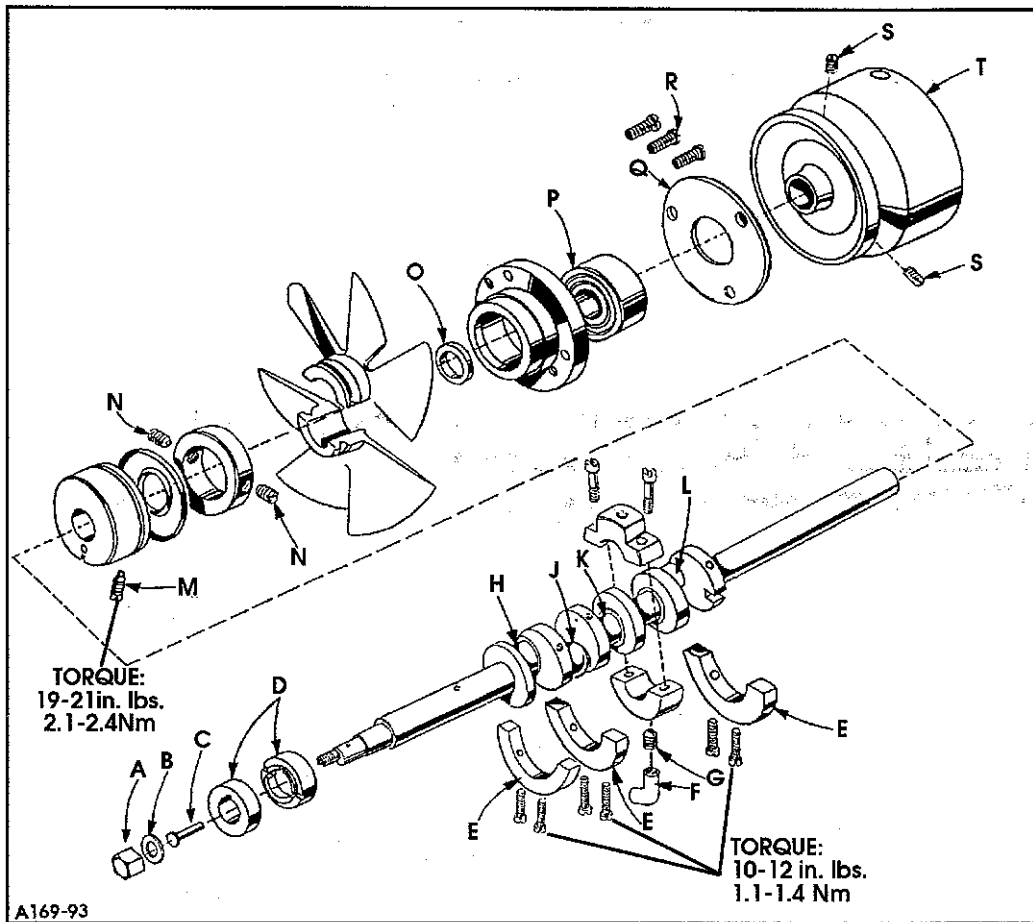

Fig. 21
3. Remove feed eccentric nut (A, Fig. 21) and washer (B) and metering pin (C). With the aid of the eccentric extractor, slip off eccentrics (D).
4. Remove three counterweights (E). Identify these counterweights so that they will be reassembled in their proper positions.
6. Loosen clamp nut (A, Fig. 22) which holds upper knife driving arm (B). Access clamp nut (A) through the top cover. Draw driving arm (B) to the left until upper knife driving lever (C) and connecting rod (D) drop, allowing removal of bearing cap (E). This is at bearing point (K, Fig. 21) on crankshaft. Observe the same precautions when reassembling cap as described in Step 6.
7. Remove oil return tube (F, Fig. 21) located on the bottom of the bed casting. Loosen set screw (G) which holds inner right crankshaft bearing, located on the bottom of the bed casting beyond the oil return tube.
8. Loosen screws (M) & (N) in the fan collar and remove both halves of the cooling fan.
9. Loosen screws (S) remove pulley (T).
10. Remove screws (R) and take off bearing retaining plate (Q). Bearing (P) may be removed at this time.
14. If necessary to replace ball bearing (P), it should be pressed off of the shaft on an arbor press. In replacing the bearing it must be pressed on carefully until it seats against ground thrust washer (O), or use Union Special pulling tool numbers 4196301 and 4196303 for removal and replacement.